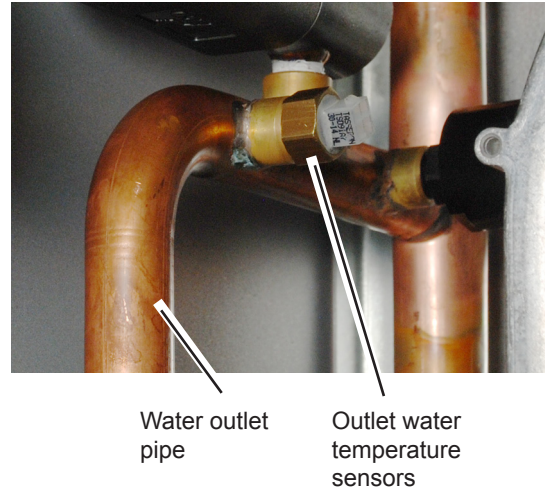

Fig. B4-1 - Outlet Water Temperature Sensor
The outlet water temperature sensor allows the control system to monitor the temperature of the water as it leaves the Mascot LX unit. A typical installation for the outlet water temperature sensor is shown in Fig. B4-1.
4. Remove the upper front cover. The outlet water temperature sensor is mounted in the upper left corner of the unit. See Fig. B4-1.